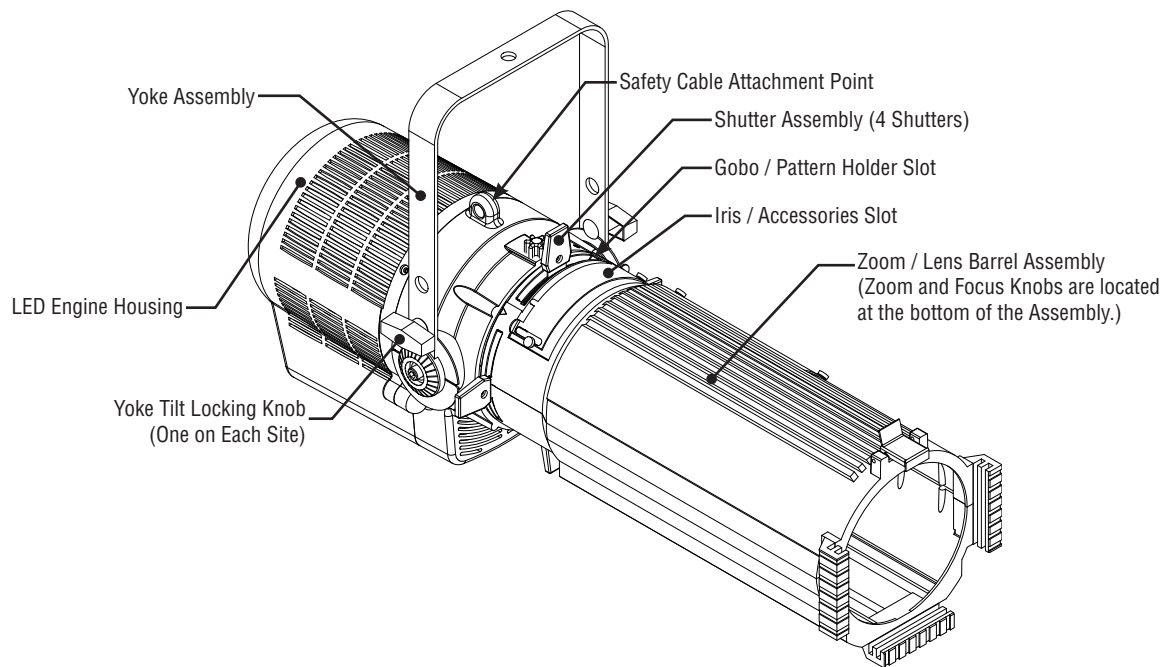

Figure 2: Zoomable Focus Model Features
Figure 2 shows the basic features of Zoomable Focus Models.
The provided c-clamp should be installed as shown in **Figure 2**. Only use the hardware supplied with the c-clamp.
1. With luminaire on a flat, sturdy surface, position yoke assembly for easy access as illustrated in **Figure 2**.